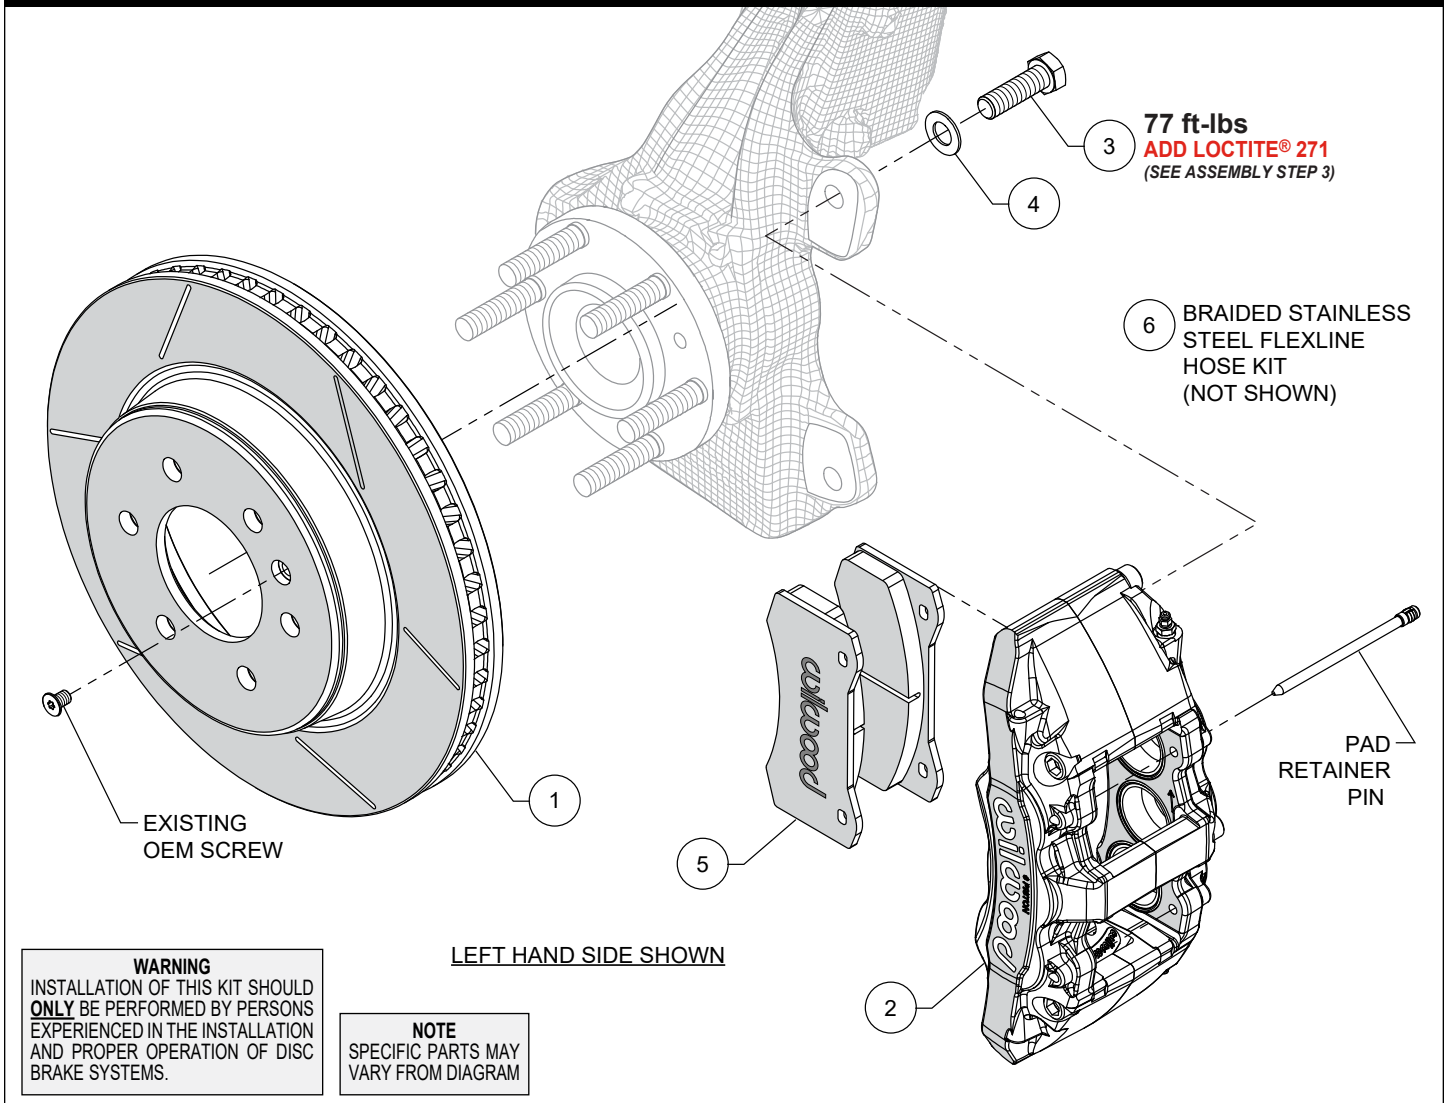

Figure 1. Typical Installation Configuration
**NOTE:** Numbers in parenthesis refer to the parts list and Figure 1 on the preceding pages.
**STEP 1** Slide the rotor (1) onto the hub. **NOTE:** The rotor must fit flush against the hub flange or excessive rotor run out may result. Install the existing OEM rotor locator screw to keep the rotor assembly in place while continuing with the installation, Figure 1 and Photo 1.
**STEP 2** Remove the two pad retaining pins from the caliper (2), Figure 1. Insert the brake pads (5) into the caliper from the bottom, with the friction material facing the rotor, as shown in Photo 2. Secure the brake pads in place with the pad retaining pins, Photo 3 and Figure 1. **CAUTION:** Ensure pad retaining pins are completely engaged into caliper. It is recommended to use a small flat punch and hammer to tap the pins in until they are fully seated.
**STEP 3** **NOTE:** This kit contains distinct right and left hand calipers that must be mounted in a specific direction, as described below. Ensure that the caliper is mounted so the largest pistons are at the rotor exit end of the caliper, in relation to the forward direction of the rotor. Mount the caliper (2) onto the OEM caliper mounting bosses of upright using bolts (3) and washers (4), as shown in Figure 1 and Photo 4. Apply red Loctite® 271 to bolt threads, and torque to value shown in Figure 1.
**STEP 5** Attach brake line to caliper. **NOTE:** OEM rubber brake hoses generally cannot be adapted to Wilwood calipers. Install Wilwood's braided stainless steel flexline hose kit (6), p/n 220-17998, included with this kit. The caliper inlet fitting is a 1/8-27 NPT. Use the included steel adapter fitting at the caliper (use PTFE tape on the pipe threads of adapter fitting for proper sealing to caliper). Note the final orientation of the caliper inlet adapter fitting as shown in Photo 5. Mount the Wilwood brake line chassis adapter fitting into OEM bracket using the supplied retainer clip and attach the OEM hard line to new chassis adapter fitting. Attach flexline to other end of chassis adapter fitting and then to caliper fitting. Note routing of flexline as shown in Photo 5. **NOTE:** Secure any sensor wires away from rotating parts using zip-ties (not included with brake kit).